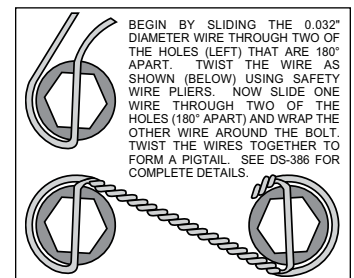

Figure 4. Safety Wire Diagram
• Slide the bracket kit assembly (1) onto the housing flange and then insert the axle assembly through the center hole of the bracket kit assembly (1). Secure using the stock Original Equipment Manufacturer (OEM) bolts and nuts. Stock OEM hex nuts that retain the bracket kit assembly (1) should be on the wheel side of the bracket. Apply red *Loctite*® 271 to the stock OEM bolt threads and torque to OEM specifications. Make sure the bracket kit assembly (1) brake pads are FACING OUTWARD TOWARDS THE WHEEL.
• With the larger I.D. side of the rotor (3) facing away from the hat (2), bolt rotor (3) to hat (2) through the backside of the rotor using washers (4) and bolts (5). Apply red *Loctite*® 271 to the bolt threads and torque to 155 **in-lb** using a criss-cross pattern. For an added measure of security, the bolts may be safety wired using standard 0.032 inch diameter stainless steel safety wire as shown in Figure 4. Please refer to Wilwood's data sheet DS-386 (available at [www.wilwood.com/Pdf/DataSheets/ds386.pdf](http://www.wilwood.com/Pdf/DataSheets/ds386.pdf)) for complete safety wire installation instructions.